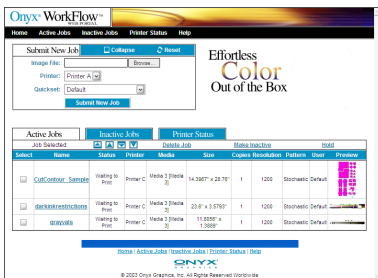

Figure 12—Web Portal
4. Press **Enter**. This will open the Web Portal (see Figure 12).